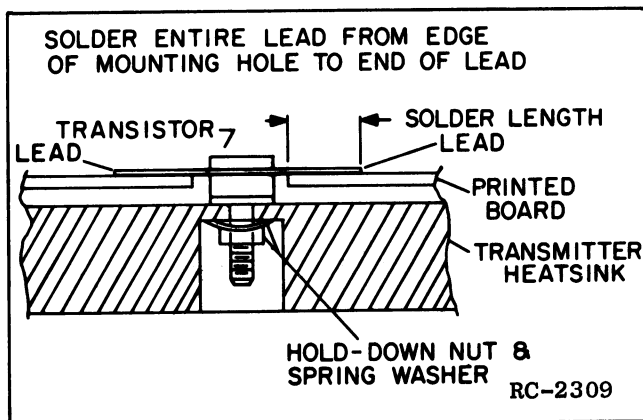

Figure 3 - Lead Forming
3. Make sure that the transistor leads are formed as shown in Figure 3 (Q202) so that the leads can be soldered to the printed circuit pattern, starting from the inner edge of the mounting hole.